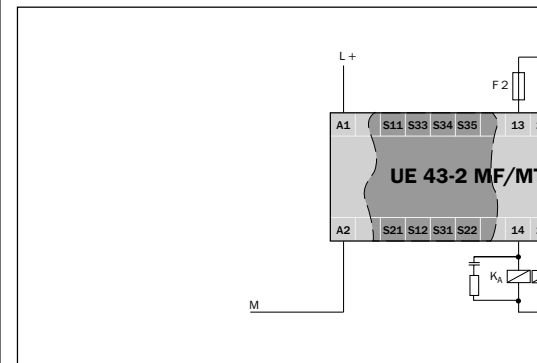

Fig. 2: Basic wiring: Voltage supply, dual channel output circuit (refer to *Technical Data*)
- To prevent the final switching device contacts from fusing, a fuse, rated to provide protection from short-circuits to max. 6 A (Operation Class gG), is to be incorporated in the output circuitry (refer to Fig. 2, fuses F2/F3).